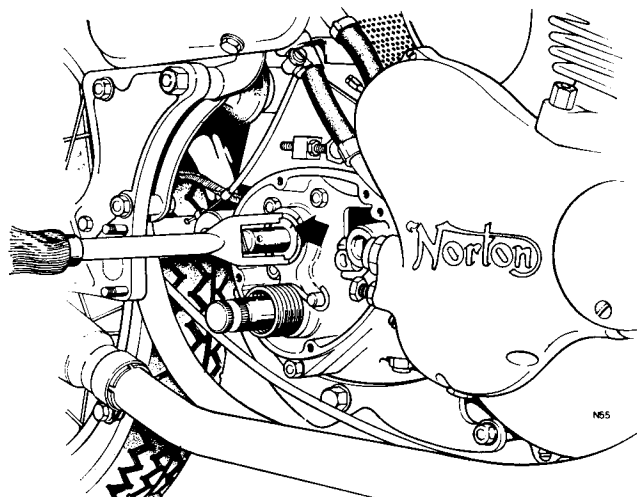

Fig. D1 Removal of clutch body locking. Note alignment marks on lock ring and cover
Prior to removing the gearbox inner cover it is necessary to mark clearly the position of the clutch operating body by two punch marks which are shown in *Fig. D1*. This is due to the fact that the clutch operating body has no positive rotational location. Proceed as follows:
- 2 Remove the clutch operating body locking ring as in *Fig. D1* and lift away the clutch operating body and the ball.